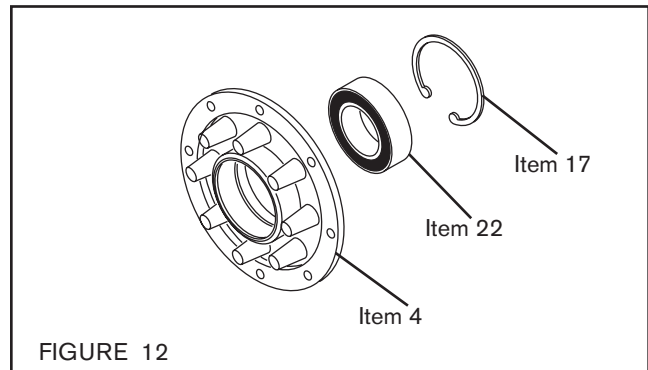

FIGURE 12
7. Remove the Retaining Ring (Item 17) (See Figure 12).
8. Press the old Bearing (Item 22) out of the Spring Housing (Item 4) (See Figure 12).
13. Reinstall the Retaining Ring (Item 17) (See Figure 12).